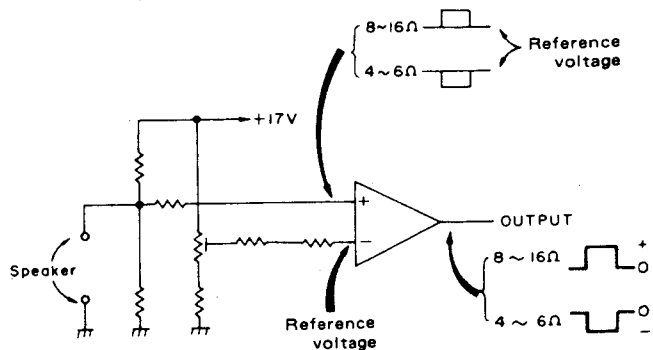

Fig. 5
While the relay (RLY302) is OFF, the speaker is in contact with the voltage comparing circuit. (Fig. 5) The reference voltage is applied to the negative input terminal of operation amplifier (IC301), and the voltage of positive input terminal varies depending on the speaker impedance as shown in Fig. 5. The alteration of voltage is directly related with the output of operation amplifier. Usually the unit is adjusted so that the output voltage is zero with 6Ω speaker connected, and the output voltage of operation amplifier becomes negative with 4Ω speaker connected, and the output voltage becomes positive with 8Ω speaker connected. Only when the voltage is negative, Q306 and RLY 302 turn ON, switching the secondary side tap voltage of power transformer to 28.7V. Incidentally, when 8Ω speaker is connected to Rch and 4Ω to Lch, negative voltage is generated.
- (3) Insert claw **C** of bottom board into claw hole **C** of rear panel. [See Fig. 5.]
- (4) Secure it with 6 setscrews.
[Fig. 5]